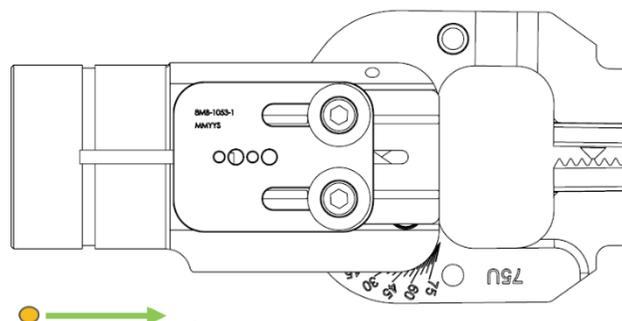

Fig.30
1. Slide the sensor carriage all the way back (see Fig.30)